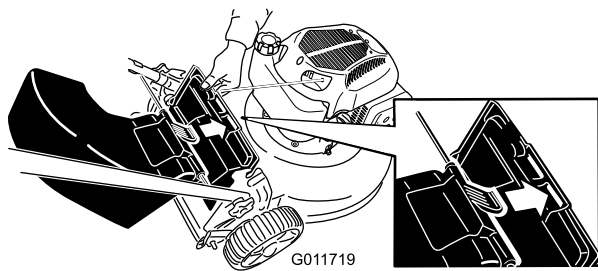

Figure 15
3. Insert the tab on the rear-discharge deflector into the right-hand slot in the rear deflector (Figure 15).